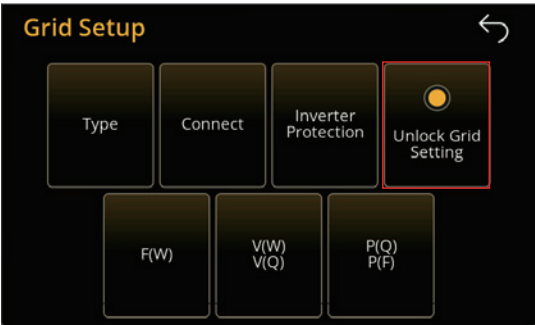

Figure 5-3
1. Go to **Settings > Grid Setup**, in this page, check Unlock Grid Setting, as shown in **Figure 5-3**.